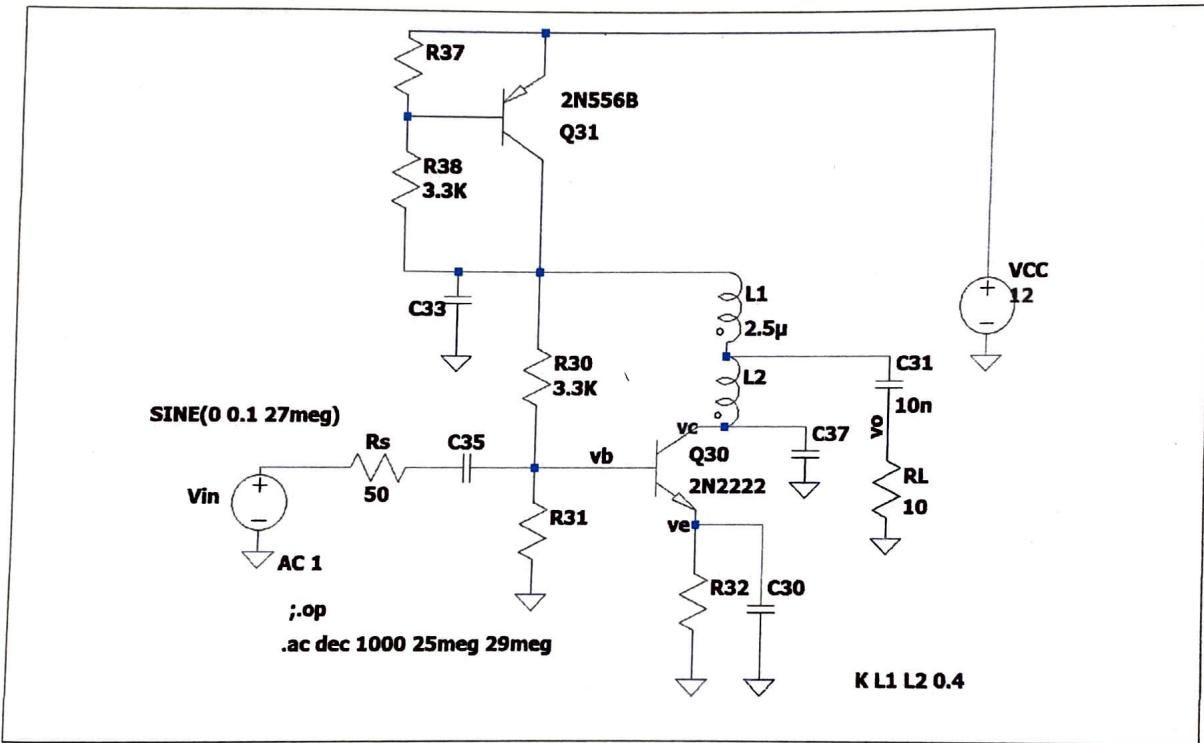

Figure 3: LTSpice schematic of transmitter RF amplifier.
4. Coupled inductors L_1 and L_2 along with C_{37} form an impedance transformation network that transforms R_L to a resistance R_t close to the optimal resistance, R_{opt} . Unfortunately, simple analytical expressions to find the component values do not exist. Instead, one can use LTSpice to determine the values. LTSpice already has the model for the transistor, 2N2222. Enter a schematic as shown in Fig. 3 using the calculated values of resistors and capacitors. Note that L_1 and L_2 are coupled inductors with "K L1 L2 0.4" statement (as SPICE directive) specifying the coupling coefficient of $k=0.4$ between them. Set L_1 value as $2.5\mu\text{H}$. The transformation ratio can be found using AC analysis in LTSpice.